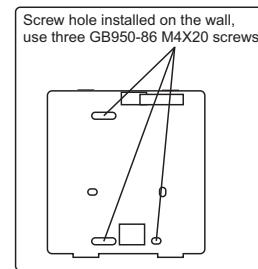

**Fig. 2 — Controller Inner Wiring Outlets**
6. Provide a 1-in. by 1-in. square opening in the wall where the controller will be mounted to accommodate the control cable as shown in Fig. 2 and 3. Be sure the distance between the controller and the indoor units is not more than 820 ft.